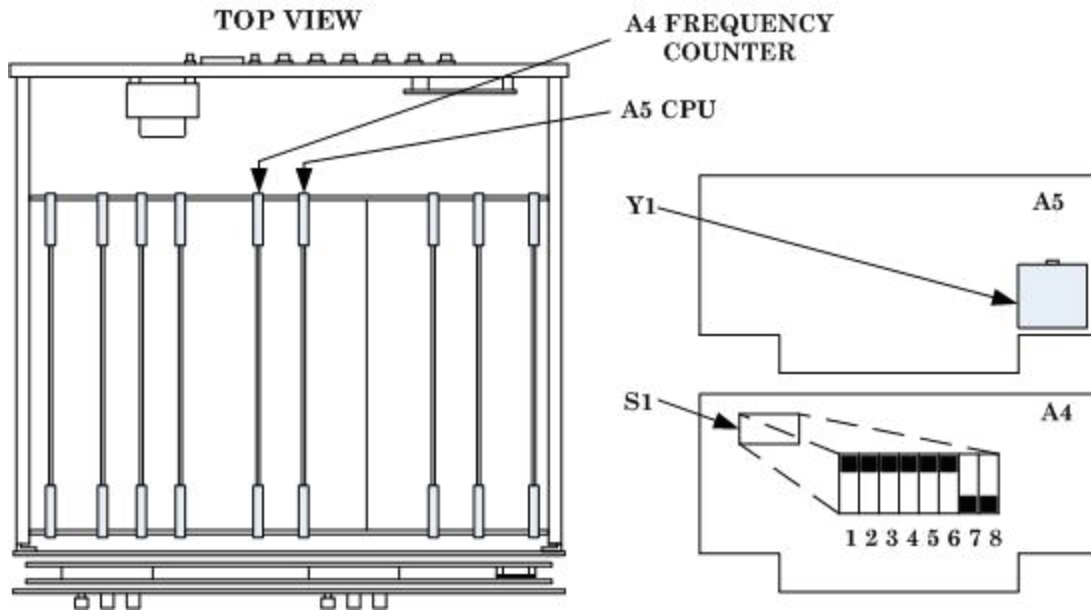

Figure 5. Time base accuracy - adjustment locations.
(a) Remove top cover and set A4S1 switch positions 7 and 8 (fig. 5) to open (down) and press **LCL INIT** key.
(3) Remove cover screw from A5 CPU Y1 (fig. 5) and adjust internal slotted screw for a TI indication of 10000.00 kHz ( $\pm 1$  count) (R).
(4) For 1120-S/10 only, reset A4 FREQUENCY COUNTER S1 switch positions 7 and 8 (fig. 5) to the closed (up) position.
- (5) Replace A5 CPU Y1 (fig. 5) cover screw and TI top cover.